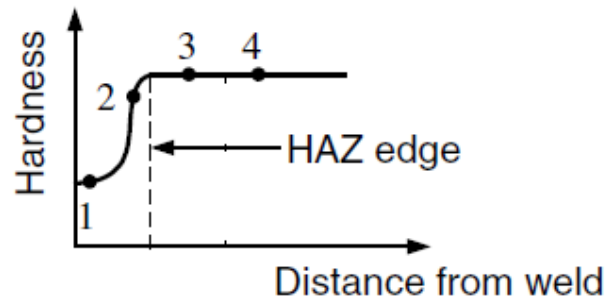

Figure 1: Hardness distribution after weld of heat treatable nickel alloy
- (a) List **TWO (2)** typical problems in welding nickel base alloys. (4 Marks)
- (c) Refer to Figure 1, explain the loss of hardness for point 1 and 2 compare to base metal at point 3 and 4. (10 Marks)